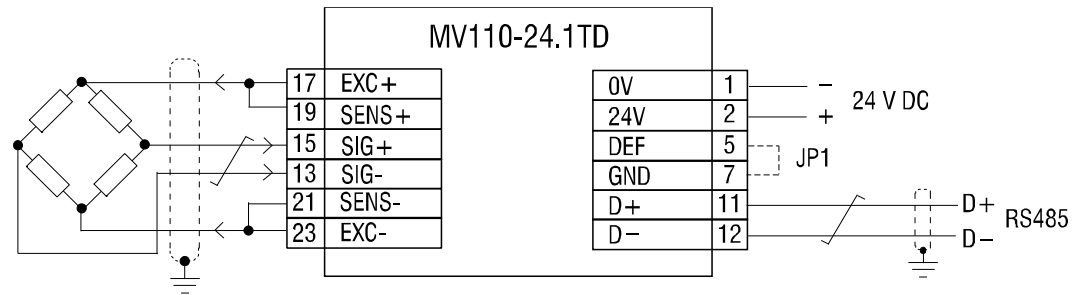

Fig. 5.1 4-wire connection
- The inputs should be wired in accordance with Fig. 5.1, 5.2.
4-wire sensor connection is used when the cable length is less than 2 m. The terminals EXC (+/-) and SENS (+/-) should be bridged on the terminal block, as shown in Fig. 5.1.